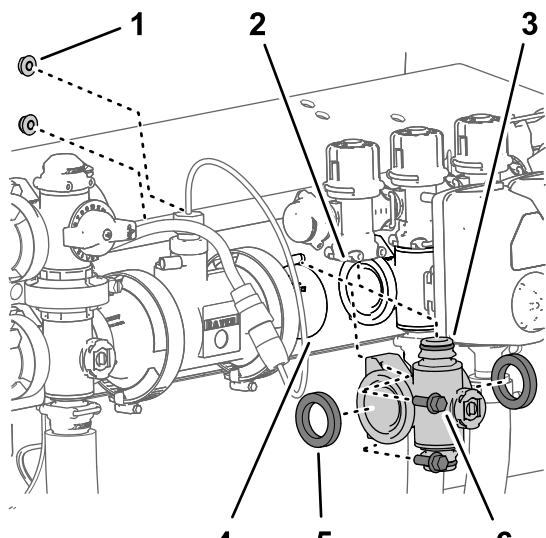

Figure 127
- For left or right section-valve manifolds, remove the 2 flange-head bolts (1/4 x 3/4 inch) and 2 flange locknuts (1/4 inch) that secure the section-valve manifold to the valve support (Figure 127).
- Move the section-valve manifold and gaskets down to clear the section-bypass valve and then away from the machine (Figure 127).